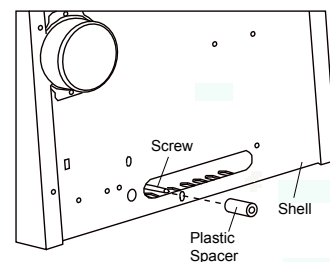
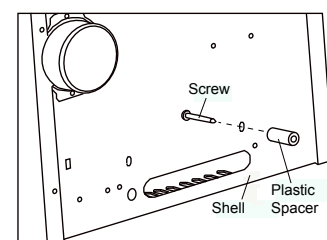

Figure 11A
Figure 11B
7. Using the longest screw and plastic spacer provided, drive screw from the inside of the heater body through hole shown in figures 11A and 11B and into the hole at the end of the plastic spacer. (For MD2TPA see Figure 11A), (For MD3TPA,MD3TPA-BB,MD5TPA,and MD5TPA-BB see Figure 11B)